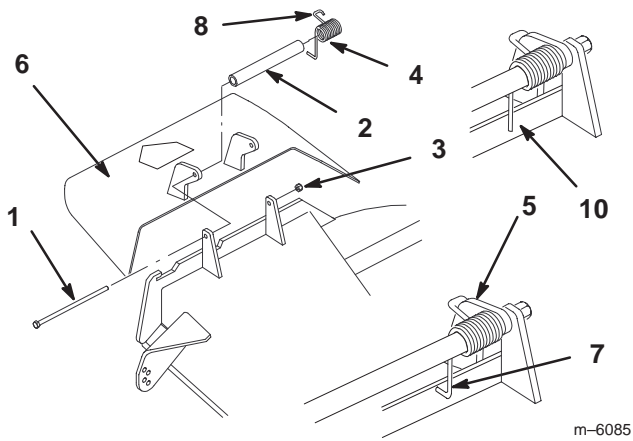

Figure 44
The grass deflector spring will have either an **L** end or a straight end (Fig. 44).
Note: Make sure the **L** or the straight end of spring is installed behind deck edge before installing the bolt as shown in figure 44.
2. Install bolt and nut. Place **J** hook end of spring around grass deflector (Fig. 44).